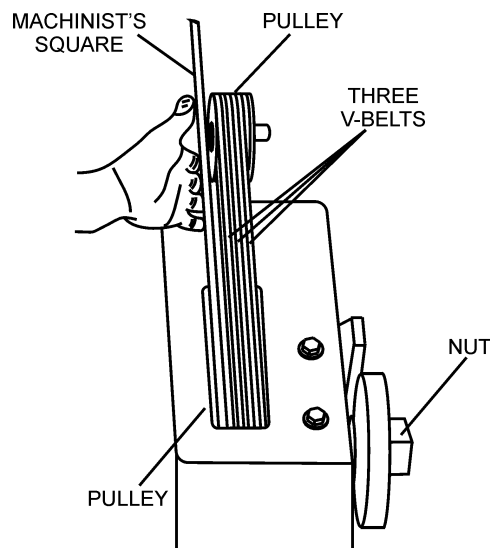

Figure 14. V-Belt Parallelism
2. Check uniform parallelism (Figure 14) of V-belts and pulley (sheaves). Use a straight edge or machinist's square against both pulleys and adjust both pulleys until equally aligned.